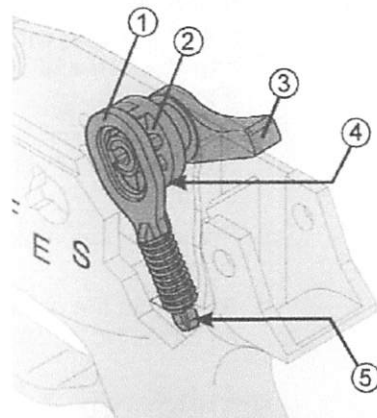

Fig. 59 Assembly position of compression spring
- ⇒ Rotate holding disc (Fig. 59/2) so that the notches point to the rear and the safety lever (Fig. 59/3) is even with the upper edge of the pistol grip.
- ⇒ Place catch with compression spring (Fig. 59/1) onto the surface of the pistol grip (Fig. 59/5) with the holding arrow to the right.
- ⇒ Push catch downwards and engage the holding arrow in the small lower notch (Fig. 59/4) of the holding disc.